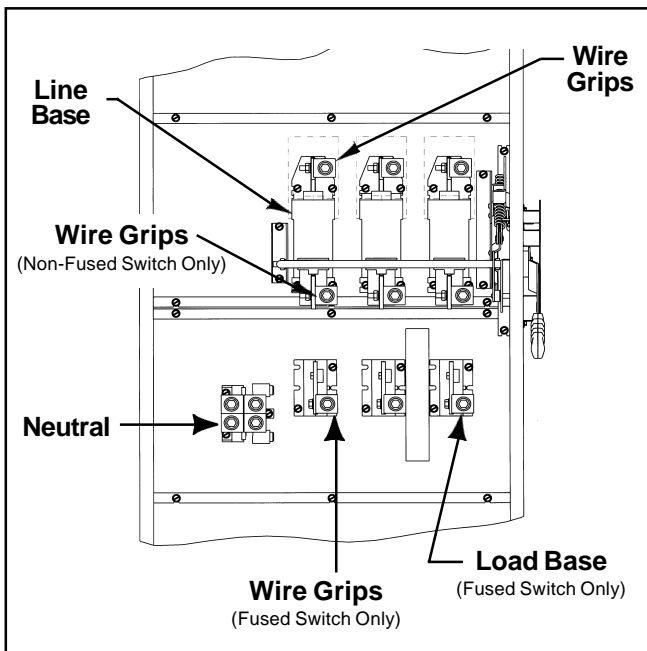

Fig. 1
4. Remove wires from all wire grips. See Fig. 1.
5. Remove each wire grip, retaining the mounting hardware. See Fig. 1 and 2.